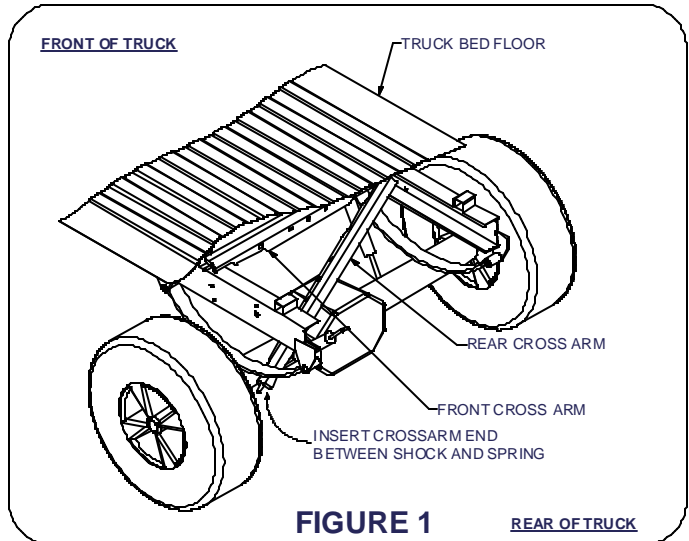

FIGURE 1
- 1) Install the cross arms by inserting them between the shock and spring. **(See figure 1.)** Slide leading end into the gap between truck bed and frame on the passenger side. Swing the other end into the gap between truck bed and frame on the driver's side. **(Note: Holes in the cross arms must face each other as shown in Figure 1.)**